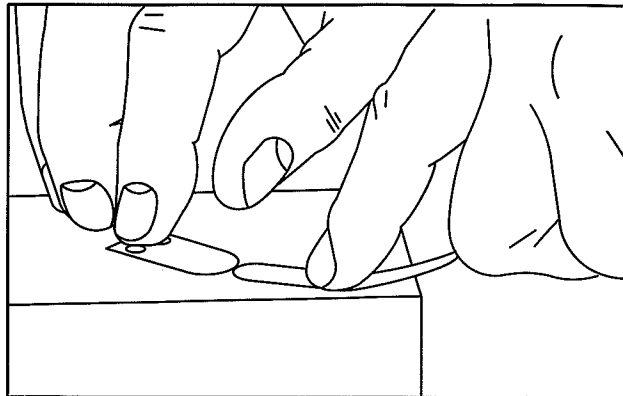

Fig. 16 – Check Reed Valve
3. Check reed valve for distortion with feeler gauge, Fig. 16.